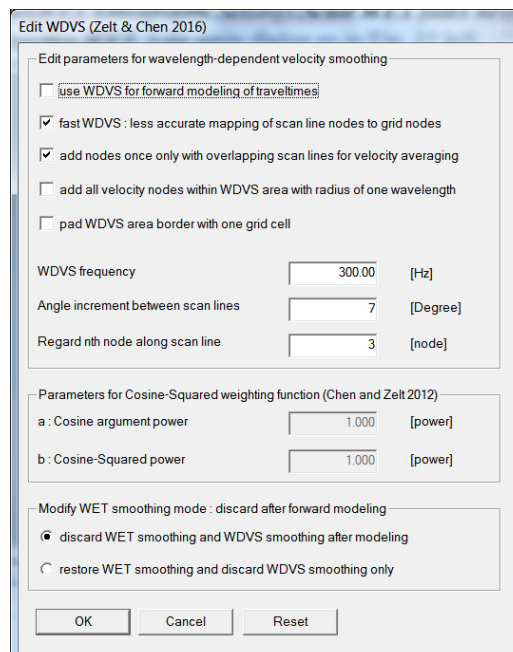

Fig. 15 (above) : ***Model\WDVS Smoothing***. Check radio button ***discard WET smoothing and WDVS smoothing***. Click OK button.
- select *Model\WDVS Smoothing*. Click radio button ***discard WET smoothing and WDVS smoothing*** (Fig. 15). Click button OK.
Fig. 18 : constant-velocity initial model (left). Steepest-Descent WET inversion (Schuster 1993, Rohdewald 2025) after 999 WET iterations (center) with **discard WET smoothing** checked in **Model/WDVS Smoothing** (Fig. 15).
- we discard the WET smoothing after forward modeling (Fig. 15) for Fig. 18 instead of restoring the WET smoothing (Fig. 11) after forward modeling for Fig. 13